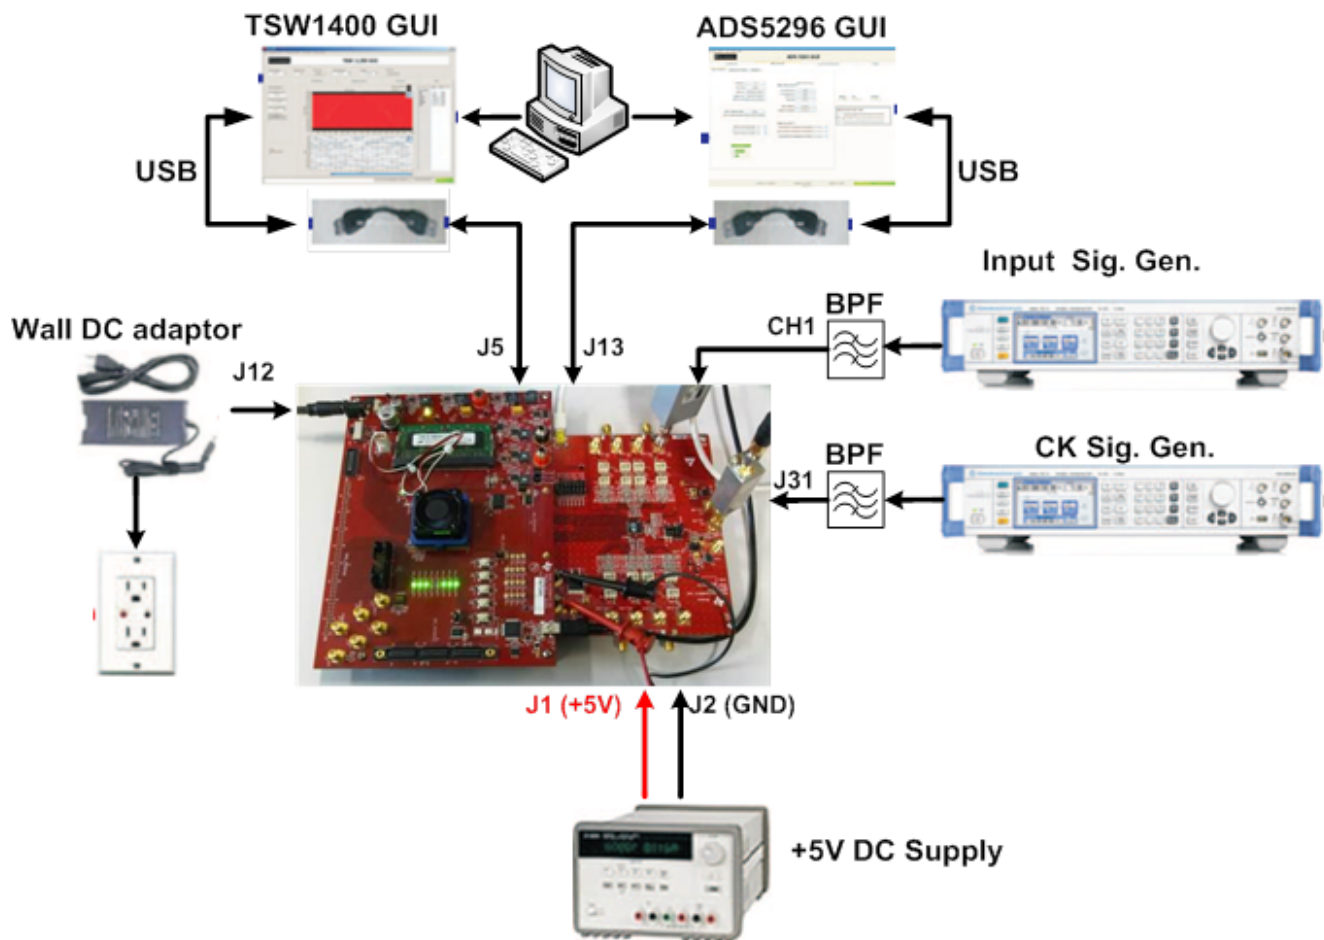

Figure 1. Evaluation Setup
Figure 1 is an overview of the evaluation setup that includes the ADS5296A EVM, TSW1400 data capturing card, external equipment, personal computer (PC), and software requirements.
Equipment: Signal generators (with low-phase noise) must be used as source of input signal and clock in order to get the desired performance. Additionally, band-pass filters (BPF) are required in signal and clock paths to attenuate the harmonics and noise from the generators. (**Note: Functionality of the setup shown in Figure 1, including the LVDS interface between the ADS5296A and FPGA on the capture card, can be tested using the on-chip test pattern generator and the on-board crystal oscillator for an ADC sampling clock source.**)